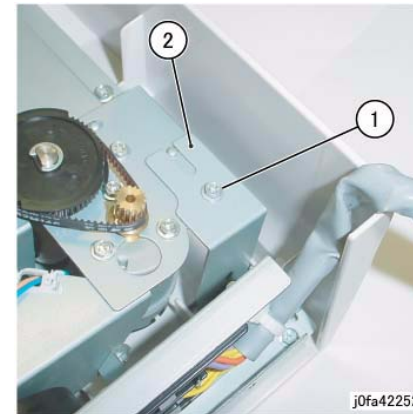

Figure 1 Removing the Rear Bracket
6. Remove the rear Bracket (Figure 1):